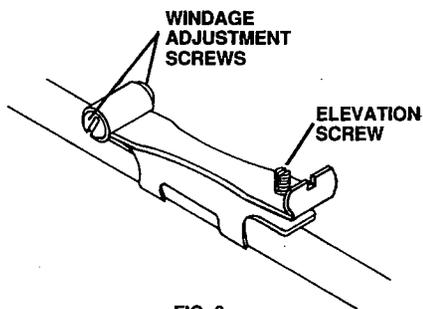

FIG. 6
- The rear sight may be adjusted to shoot higher or lower (elevation). Turn the elevation screw clockwise to make the pellet hit higher on the target. Turn the elevation screw counterclockwise to make the pellet hit lower on the target. (Fig. 6)
- The rear sight may also be adjusted to shoot right or left (windage). To make the pellet hit further to the left on the target, loosen the windage screw on the right side of the sight and tighten the windage screw on the left side of the sight. To make the pellet hit further to the right on the target, loosen the windage screw on the left side of the sight and tighten the windage screw on the right side of the sight. (Fig. 6)